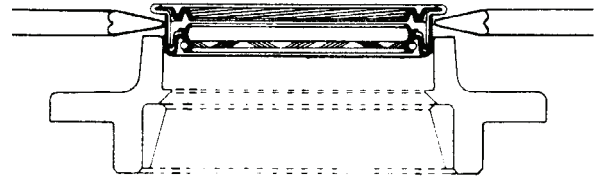

Figure 20. Input Bearing Cage Oil Seal Removal.
- (2) Pry under the flange of the oil seal to remove the oil seal from the input bearing cage. Replace the oil seal if the oil seal is damaged. Figure 20.